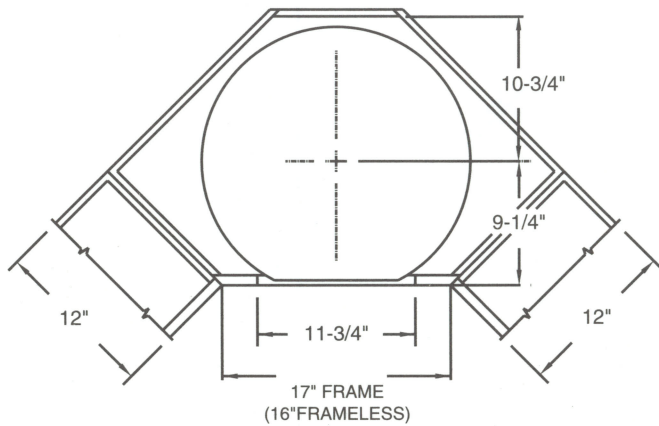

FIGURE 1
1. The dimensions shown in Figure 1. are minimum.
1. Before drilling holes, make sure there will be adequate clearance at the back of the shelf assembly (see Figure 1, reverse side).